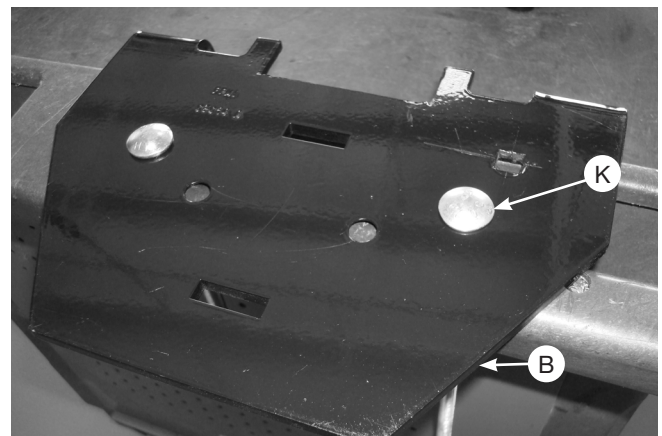

Fig. 11
- Insert two 3/8"-16 x 10" carriage bolts (K) through the square holes in the lower bracket main plate (B) (Fig. 11).